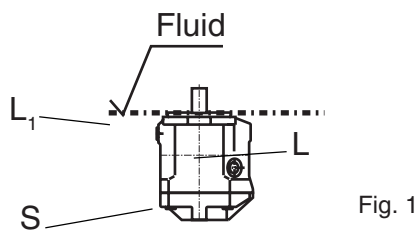

Fig. 1
a) If the minimum fluid level is equal to or above the pump mounting surface leave ports "L", "L1" and "S" open (see Fig.1).